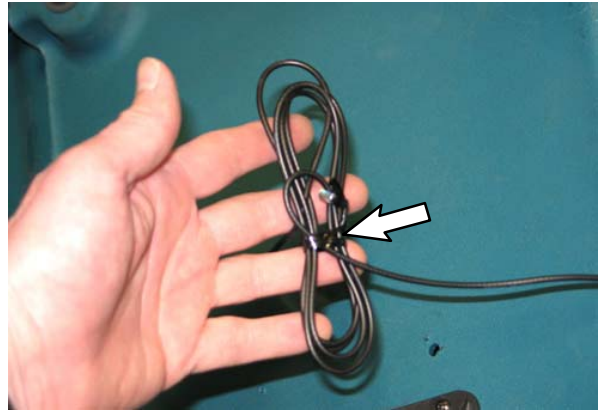

FIG. 14
14. If necessary, bundle the antenna (7) cable and secure the bundled cable with a cable tie (6). (Fig. 14)